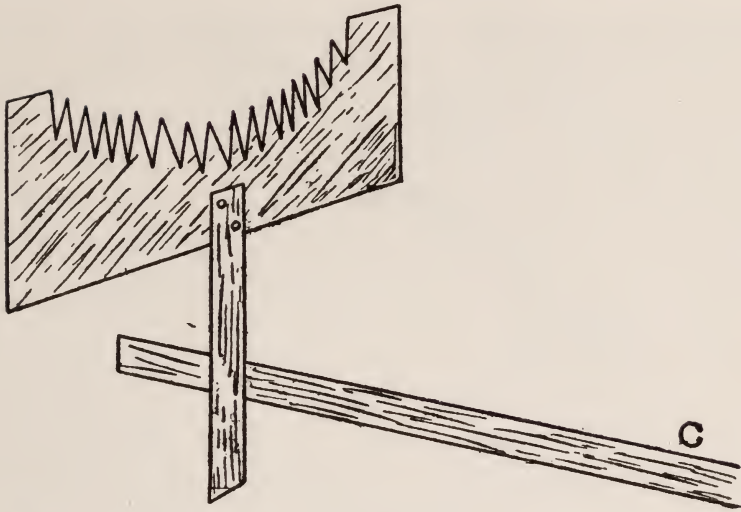

Fig. 2
**The Vignetter.**— The vignetter is a piece of cardboard, part of which, shaped like a half circle, has been cut out; it is notched on the concave edge and designed to cut out such parts of the picture as it may be desirable to eliminate. Being placed much nearer the lens than the sitter, it is itself out of focus and the notching removes any possibility of a sharp line of separation, so that the apparatus vignettes or blends the image gradually into the background, which the vignetter should approach in depth of tone. This is a very useful accessory for bust pictures and should form a part of the equipment of every amateur who practices home portraiture. It must, however, be used with discretion and is scarcely useful except in connection with plain backgrounds. Of course, a vignetter can be purchased from any dealer in professional goods; but it is so simple in construction and easily made of material found in any home that there is no reason why the worker should not make one himself and save the expense. The material needed consists of a piece of cardboard and two pieces of wood, *C* being attached to the base of the camera. See Fig. 2. A vignetter for box cameras can be made of the lower section of a cardboard box, a serrated cut being made in one end, the camera being placed in the bottom of the box with the lens pointing at the serrated end.